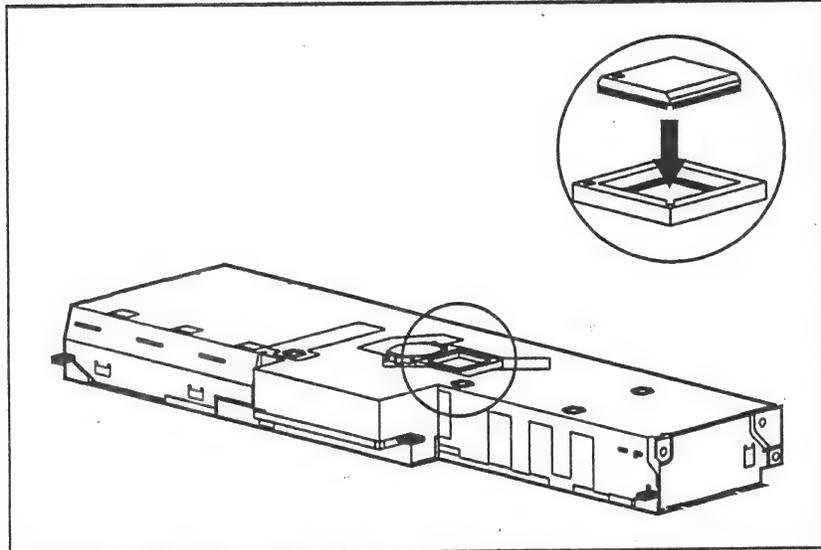

Figure 2-53. Installing the 80387SX or 387SL Coprocessors
2. Press the coprocessor into the coprocessor socket. Exert pressure evenly over the surface of the coprocessor. An unevenly seated coprocessor (or one with pins bent) may damage itself or the computer (Figure 2-53).